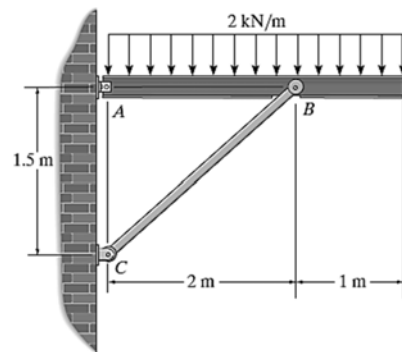

Fig. 3
3. The beam is subjected to the uniform distributed load shown. Draw the shear and moment diagrams for the beam. (Fig. 3)